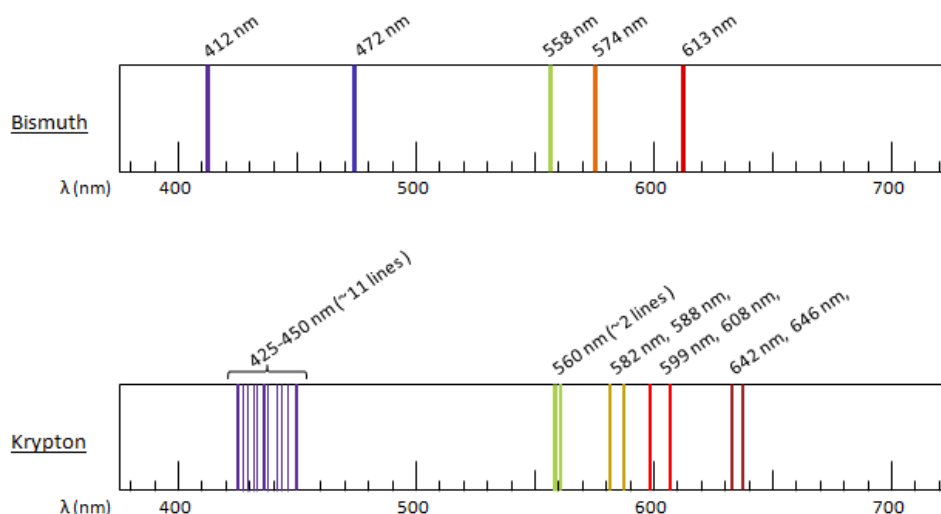
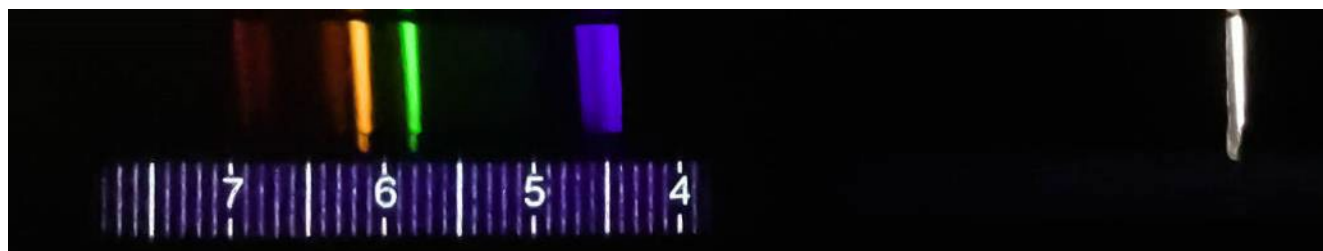

Figure 2: Emission Spectra for Bismuth and Krypton
Figure 3: Emission Spectrum for Krypton on a Low-Resolution Spectroscope
* The drawings in figure 2 are what the line spectrum will look like on a high resolution spectroscope. When using the spectroscopes in this lab, the spectrum for Krypton will look something like this (figure 3).